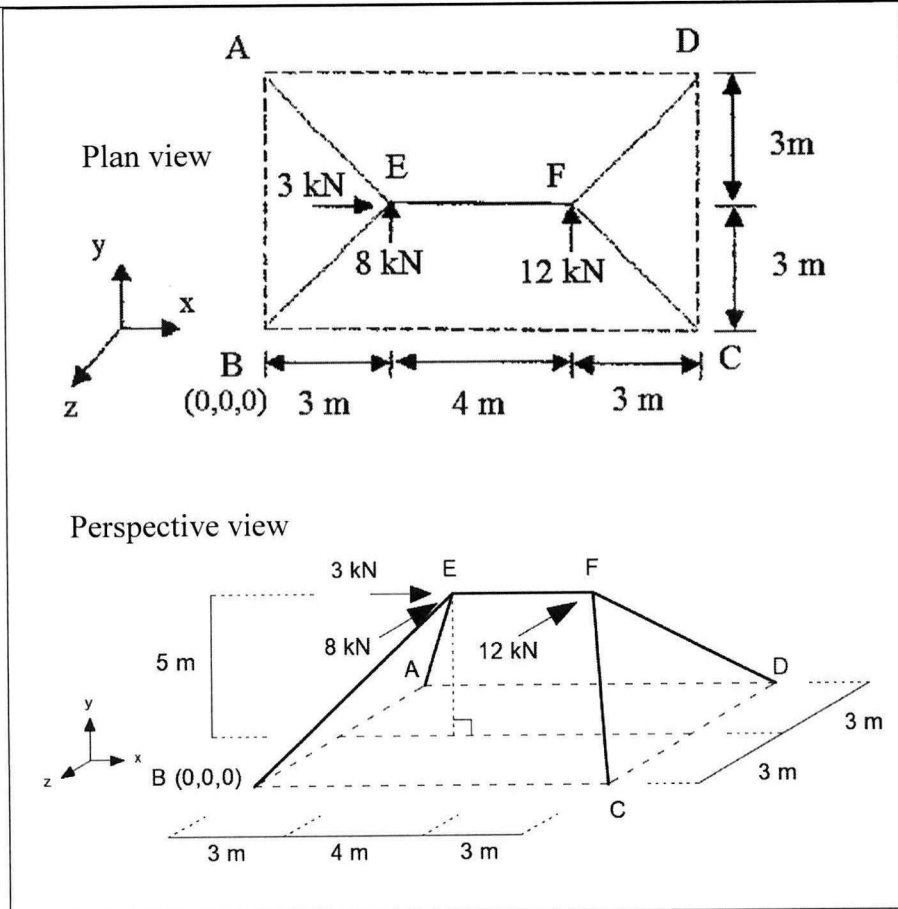

Figure 4(c)
- (c) A space frame in **Figure 4(c)** are connected at A, B, C and D in a horizontal plane through ball and socket joint. The height of point E and F is 5 m above the base and is subjected to loads as shown in figure.